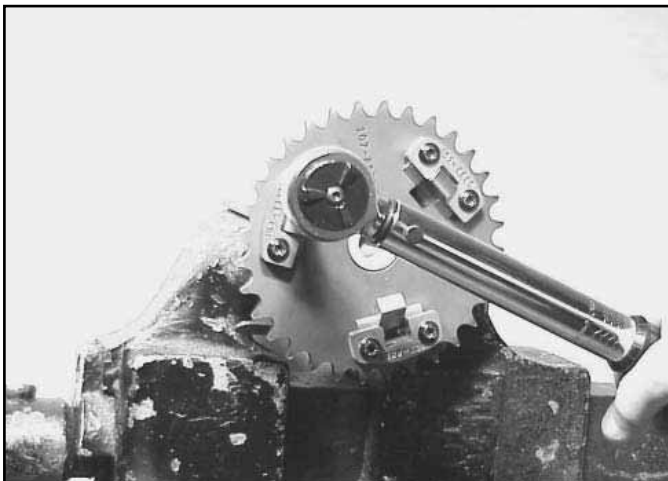

Fig 193
4. Torque the T-27 torx screws to 100 to 125 in-lbs. (11.3 to 14.1 Nm) (Fig. 193).